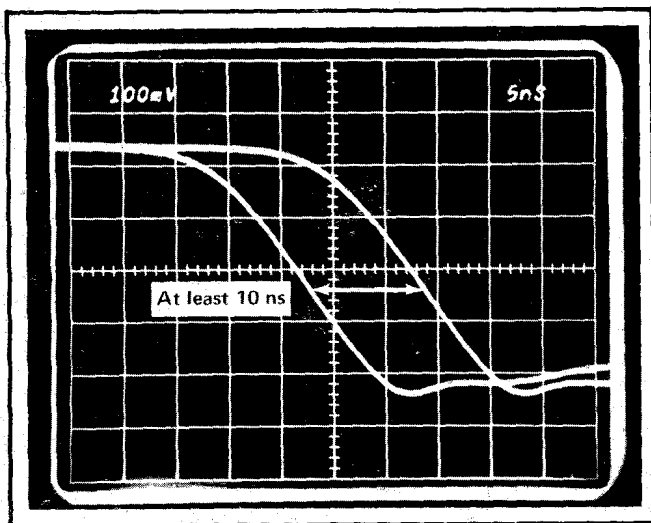

Fig. 6-9. Delay control range check.
- e. Turn the 7S11 DELAY control fully counterclockwise and check that the falling portion moves to the right at least 10 ns. See Fig. 6-9.